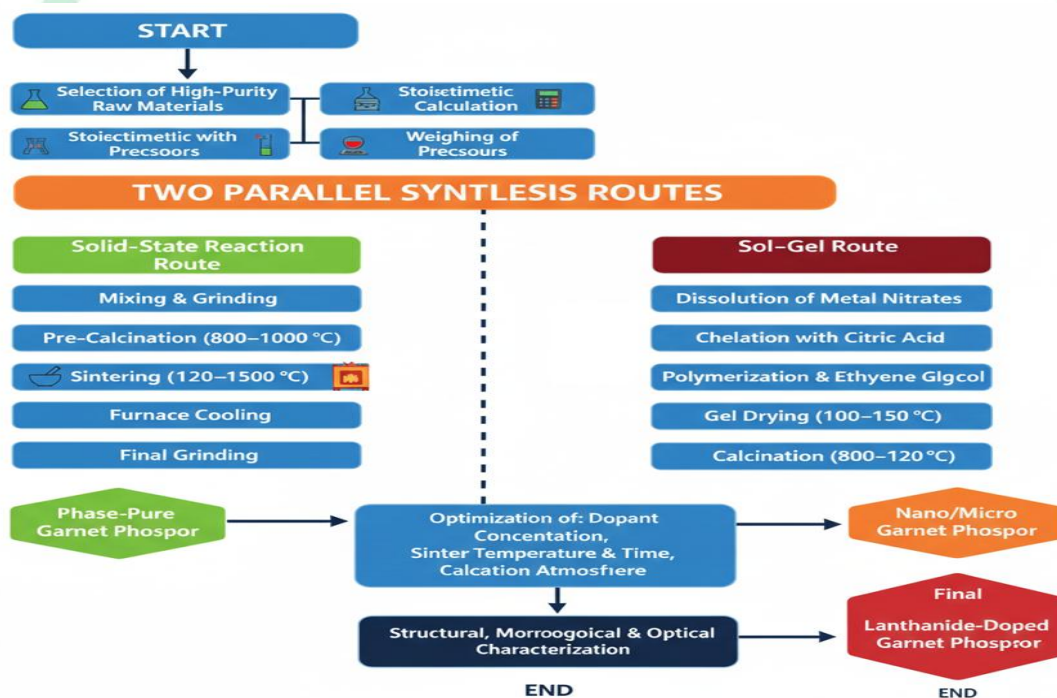

Figure 7: Dual Synthesis Route Flowchart for Lanthanide-Doped Garnet Phosphors
2. Stoichiometric Calculation & Weighing: Math is done carefully based on the aimed garnet makeup ($A_{3-x}Ln_xB_5O_{12}$). After that, raw stuff is measured exactly with a super-sensitive scale represent in figure 7.